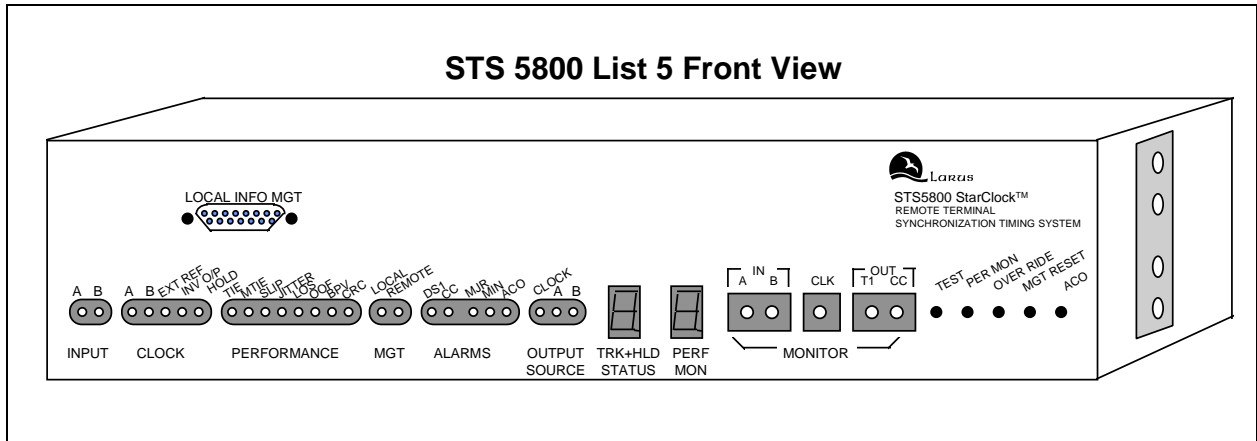

Figure 3a.
3. Refer to Figures 3a and 3b. Apply a nominal DS1 signal to the first DS1 input (rear panel, Input Connector J2) as explained in Volume 2, section 3.211. Note the differences between a terminating input and a bridging input. This signal can be easily generated from a calibrated T-BERD instrument or it can be a live traffic DS1 signal. If possible, test the following four input combinations for the first DS1 input and then again for the second DS1 input: